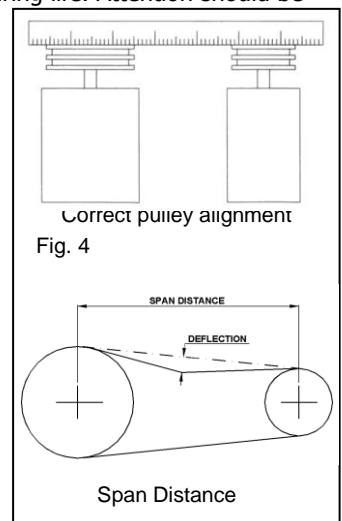

Fig. 4
2. Mount assembly in desired position on shafts ensuring both shafts are parallel and in correct alignment, use a straight edge, a correctly aligned drive will contact both pulleys squarely (see fig. 4).